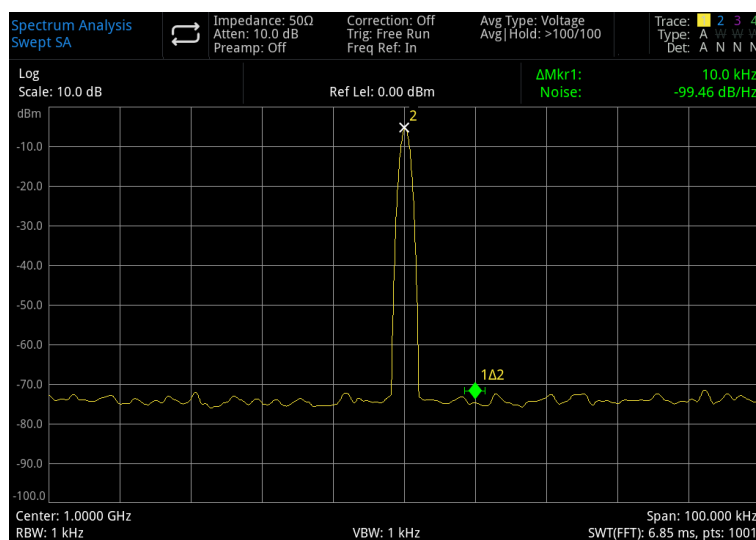

Figure 3-20 Phase Noise
- 7 Open marker function >mark noise, as shown in Figure 3-20: